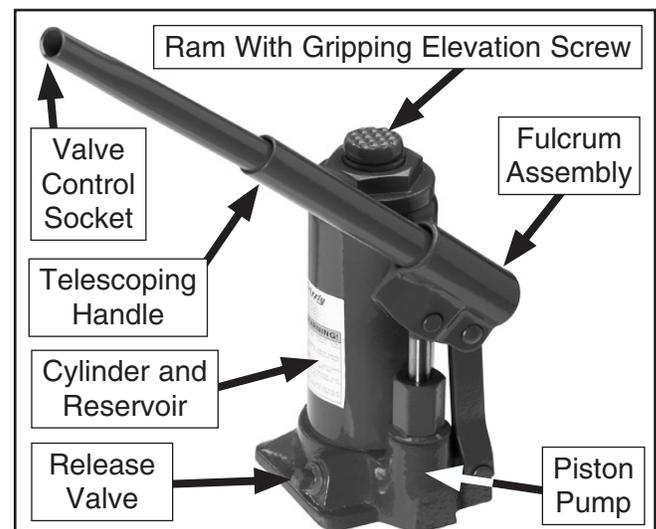

Figure 1. Jack terminology.
1. Use **Figure 1** to become familiar with the terms used to describe your new jack and inspect the unit for any shipping damage.
3. Use the valve control socket at the end of the handle to close (turn clockwise) the release valve (**Figure 1**), then pump the jack a few times to bleed the hydraulic system.
12. Place the valve control socket shown in **Figure 1** on the release valve, and slowly turn the valve counterclockwise so the vehicle slowly lowers onto the jack stands.